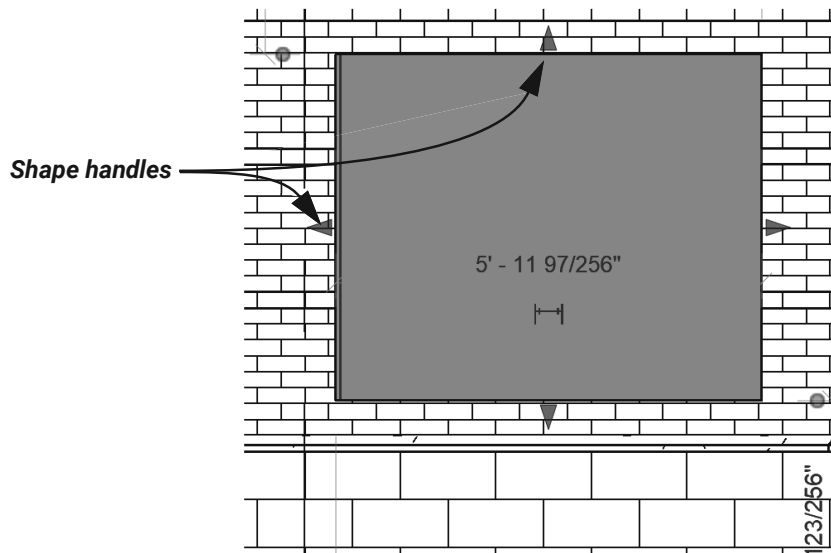

Figure 7-24
- You can use temporary dimensions to size the opening while in the command and both temporary dimensions and shape handles to modify the opening when it is selected, as shown in Figure 7-24.